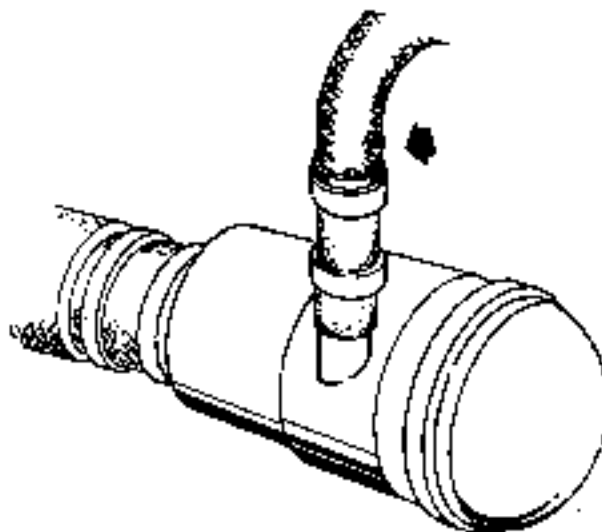

Fig. 8-5 Water separator inlet temp. sensor
2.9.3.2 Water Separator Temperature Control (See Fig. 8-5)